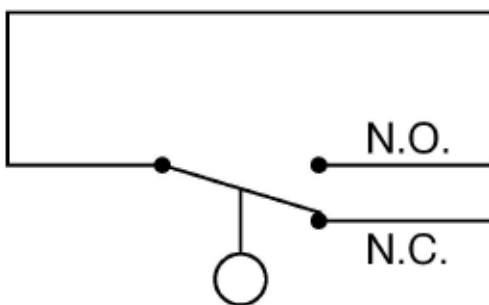

Fig. 2 - Normally Open or
2. SPDT reed switch: Connect wiring to proper switch leads or terminals per wiring diagram. See figure 2.